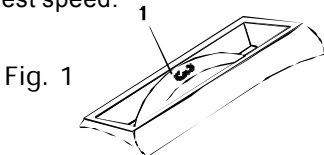

Fig. 1
Set rotary tool speed by rotating the variable speed control dial (1) to the appropriate speed (see Fig. 1). Position speed control dial at "1" for slowest speed, "3" for medium speed and at "MAX" for the highest speed.